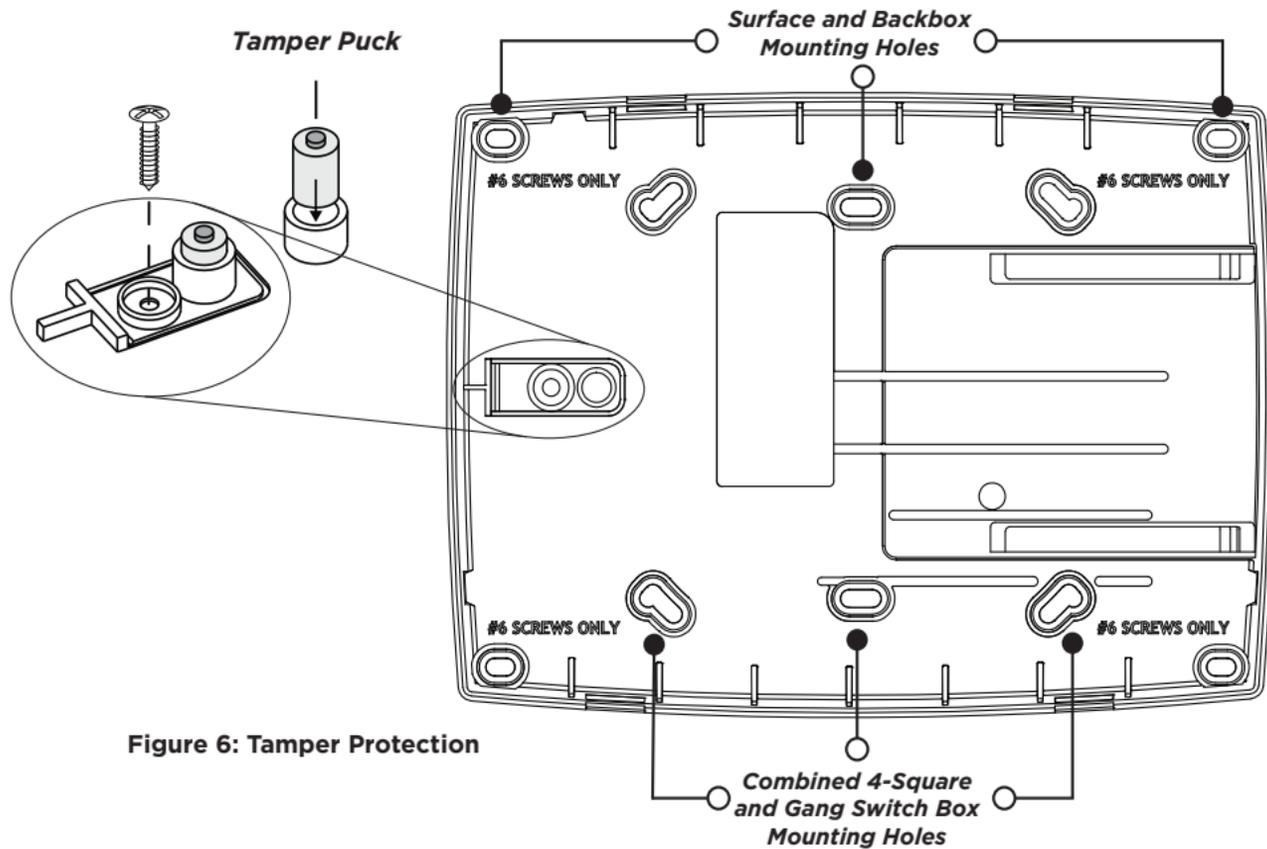

Figure 6: Tamper Protection
1. Insert the included tamper puck into the base. See Figure 6.